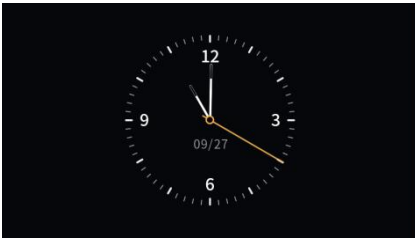

Fig.2.4.1
(1)Clock screen-saver shown as Fig.2.4.1, displayed after entering the screen saver. Digital clock shown as Fig.2.4.2, the type and numbers of air quality information is configured by ETS, which is up to 4 items. The three default pictures in the program are shown as in Fig.2.4.3, Fig.2.4.4 and Fig.2.4.5. The album can choose 1 or 3 pictures as the screensaver, display the first picture when the number of pictures is 1; It will automatically switch picture in every 5s when the number of pictures is 3.
(2) Inserting new pictures through the USB storage devices, specific steps are as follow:
**Note:**①**Only support USB storage devices that the format should be FAT32 (if the format is not FAT32, it need to be formatted as FAT32);**
**②Only support USB storage devices with capacity not greater than 32GB.**